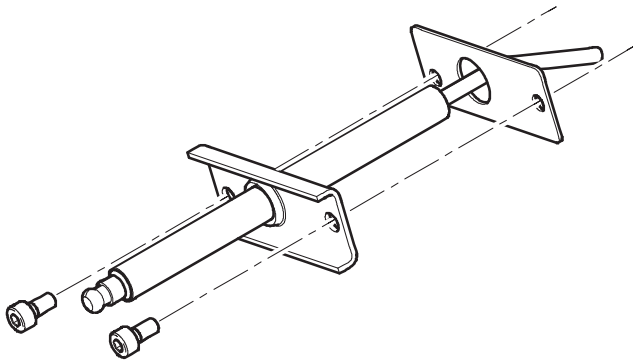

Figure 28: Ionization Electrode (Flame Rod)
- Install igniter as shown in Figure 28.